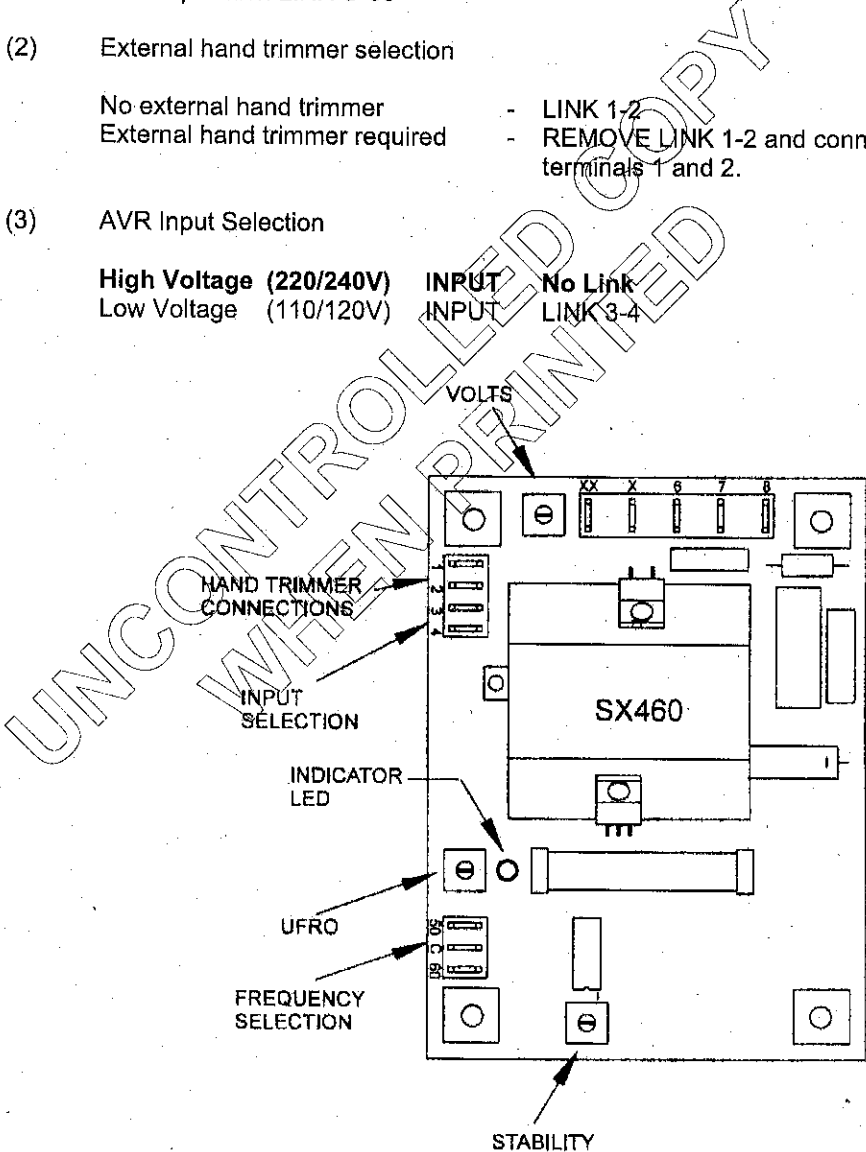

Fig 11 Type SX460 AVR
84 Refer to Figure 11 for location of selection links.
88 In addition remove the AVR access cover (on AVR controlled generators) and turn VOLTS control fully anti-clockwise. Start the generating set and run on no-load at nominal frequency. Slowly turn VOLTS control potentiometer clockwise until rated voltage is reached. Refer to Fig. 11 for control potentiometer location.
89 The STABILITY control potentiometer should be set to the midway position (refer to Fig 11 for its location) and with the stability selection correctly set should not normally require adjustment. Should adjustment be required, usually identified by oscillation of the voltmeter proceed as follows:
- 92 Refer to Figure 11 for control potentiometer locations.